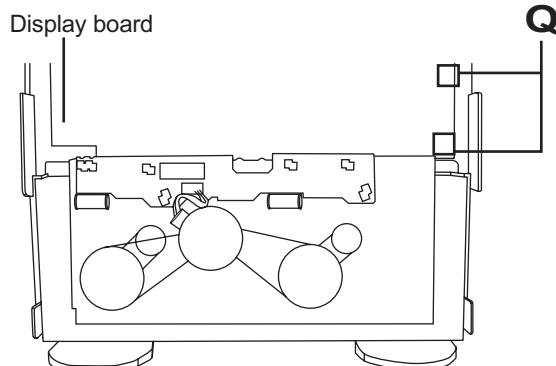

Fig.20
(See Fig.20)
- (5) Remove two screws **S** retaining the sound mode and CD function (key 2) switch board.(Fig.20)